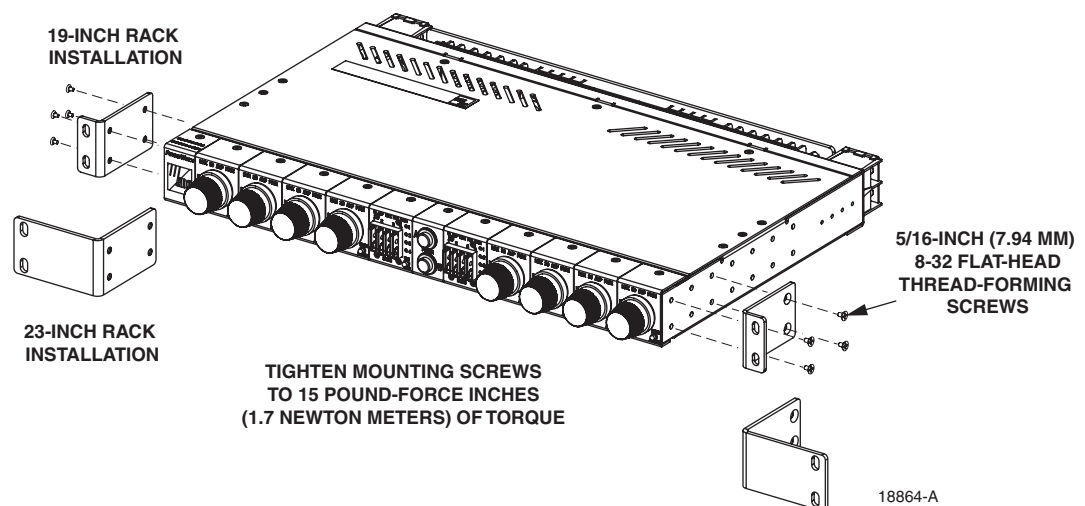

Figure 13. Mounting Brackets
2. Orient the mounting brackets as shown in Figure 13.